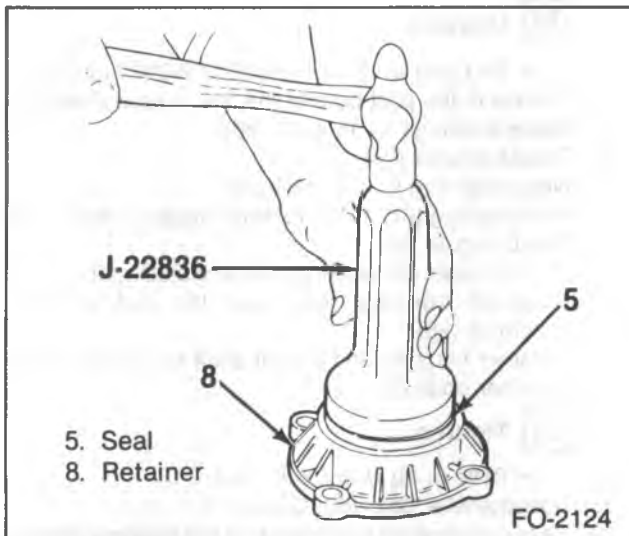

Figure 15—Installing the Front Output Bearing Retainer Seal
2. Spacer (42).
3. Roller bearings — 32 per row (41) in the front low gear (43).
4. Front low gear (43) on the front output shaft (40).
5. Thrust washer pin (45) in the shaft (40).
6. Thrust washer (44) on the shaft (40).
7. New snap ring (46), using tool J 23432.
8. Front output shaft front bearing (9) into the case (19).
9. Front output shaft front bearing retainer seal (5), using J 22836 (figure 15).
10. Front output shaft front bearing retainer (8).
11. Retainer bolts (6).